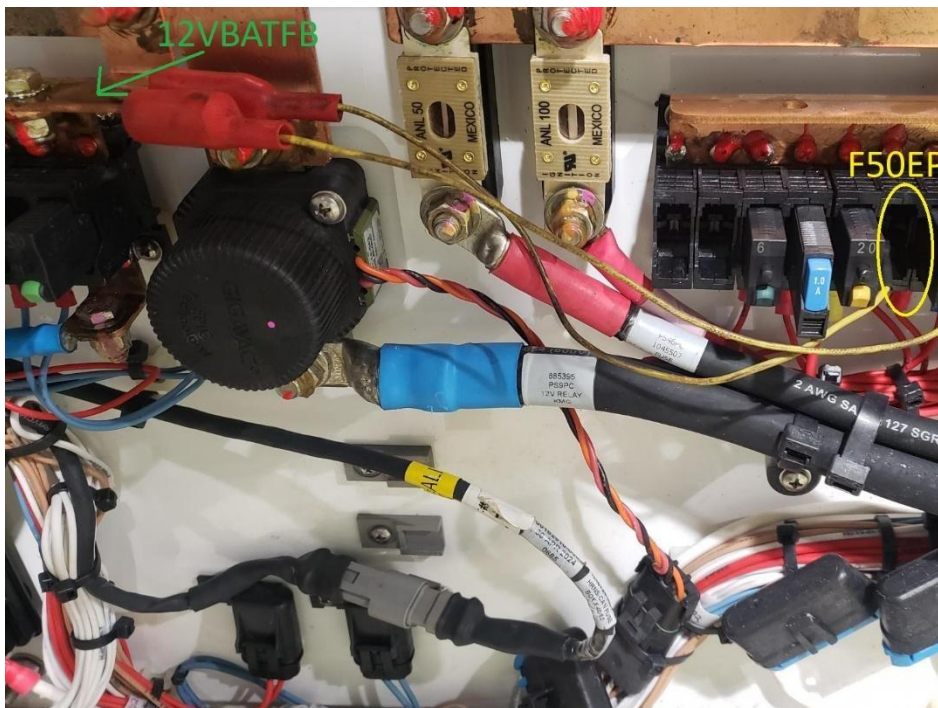

Figure 1: Connect F50EP to 12 V bus bar
6. Connect alligator clip ends of the jumper used above to 12 V bus bar in LV junction box (12VBATFB). See Figure 1 below.